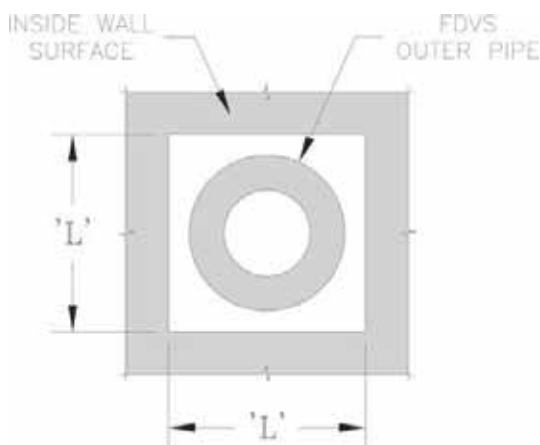

Figure 25: Wall Cutout Dimensions
5. After determining the location of the venting system termination, cut the square hole in the wall sized according to "L" dimension in Table 4, see Figure 25.